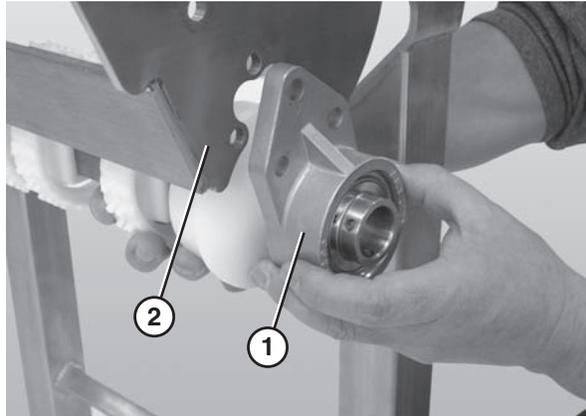

Figure 53
7. Disconnect the 3 hole flange bearing (**Figure 53, item 1**) from the nose bar drive weldment (**Figure 53, item 2**).